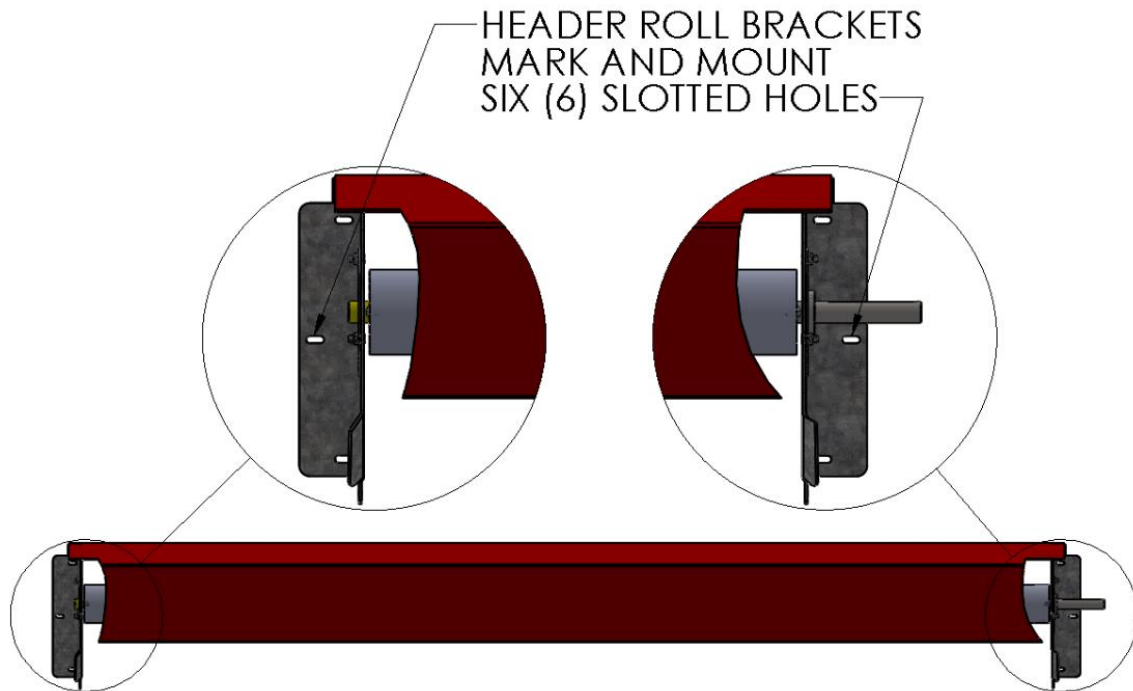

Figure 6 MOUNT HEADER ASSEMBLY TO WALL
1. Using two (2) people, and two ladders at minimum, raise the Roll Header Assembly into place on the wall, and loosely secure with three (3) sets of mounting hardware per side using screws or bolts that are adequate to your building/surface material. (Figure 6 MOUNT HEADER ASSEMBLY TO WALL)